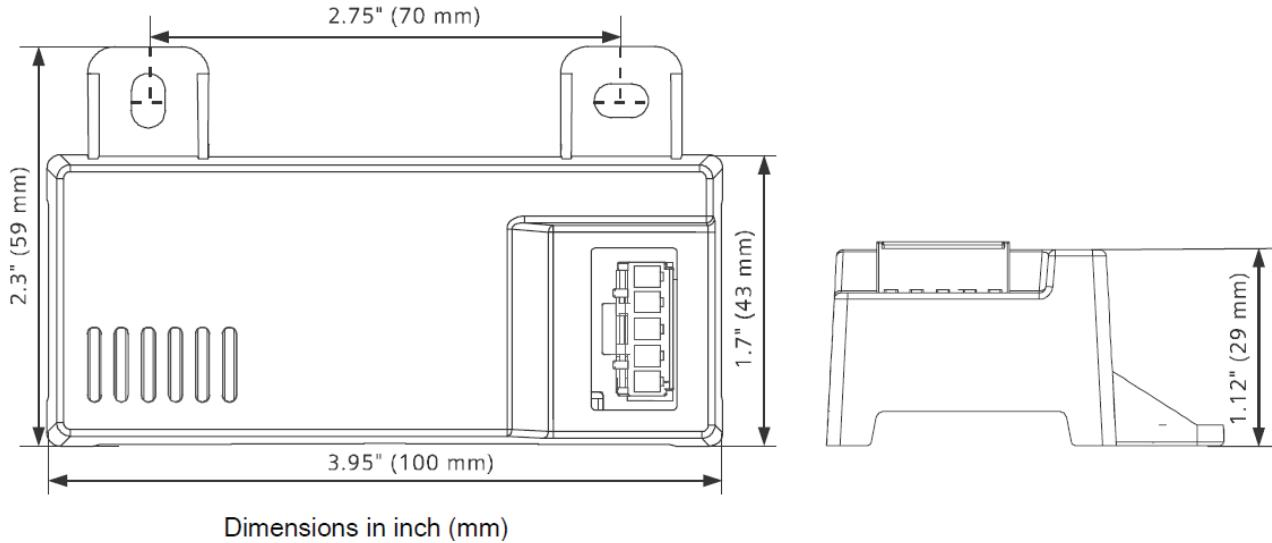
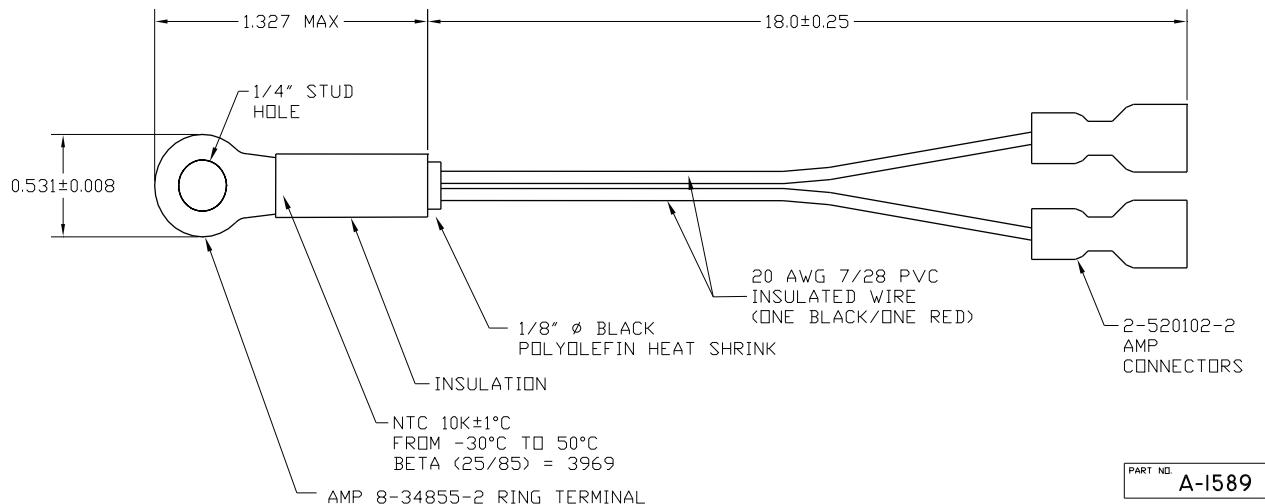
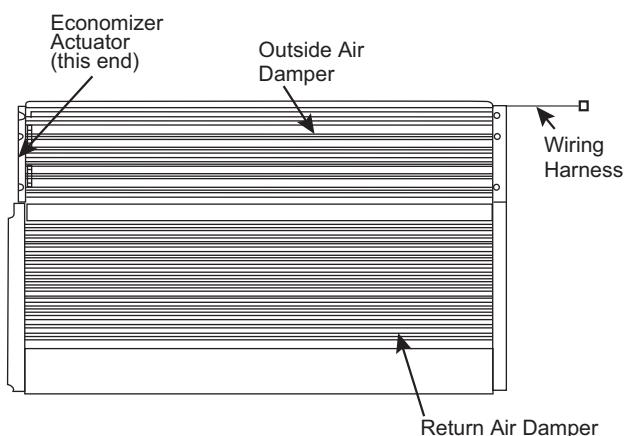

Fig. 72 — HH57LW001 Dimensional, Connection and Switching Information
Fig. 73 — HH79NZ039 Dry Bulb and Mixed Air Sensor Wiring
Fig. 74 — EconomizerONE System Component Locations
When using the HH57LW001 enthalpy sensor (see Fig. 72) for outside air changeover, the existing HH79NZ039 dry bulb sensor (see Fig. 73) must be removed. The enthalpy sensor will be mounted in the same location as the dry bulb sensor (see Fig. 74). When the enthalpy sensor's OA (Outside Air) temperature, enthalpy, and dew point are below their respective set points, outside air can be used for free cooling. When any of these are above their set point, free cooling will not be available. Enthalpy set points are configurable and create an enthalpy boundary according to the user's input. For additional details, see Fig. 75-76 and Table 32.
The optional enthalpy control sensor (P/N: HH57LW001) communicates with the POL224 economizer controller using the 5-wire harness, 48TC005213. The HH57LW001 sensor can be used as a single outside air enthalpy, a differential return enthalpy, or a differential return temperature sensor. Refer to the base unit control wiring diagrams found earlier in this book to wire the HH57LW001 enthalpy sensor for each option. See Fig. 72 and Table 34 on page 52 to locate the wiring terminals for each enthalpy control sensor.
Economizers are shipped standard with an HH79NZ039 outside air dry bulb sensor (refer to Fig. 73). System default setting (high temp limit) is 63°F (17°C) and has a range of 48°F to 80°F (9°C to 27°C). Sensor is factory installed on economizer.
If installing the optional HH57LW001 enthalpy sensor, the HH79NZ039 dry bulb outside air sensor must first be removed. Wire sensor to harness 48TC005213 and the (5) wires from the harness to the EconomizerONE harness in the return air chamber. Harness 48TC005213 has a 5-pin plug that connects directly to the HH57LW001 enthalpy sensor. Refer to the base unit control wiring diagrams earlier in this book for wiring connections. Refer to Fig. 72 and see Table 34.